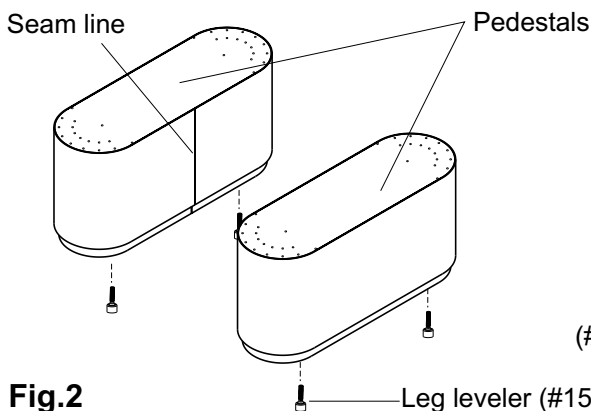
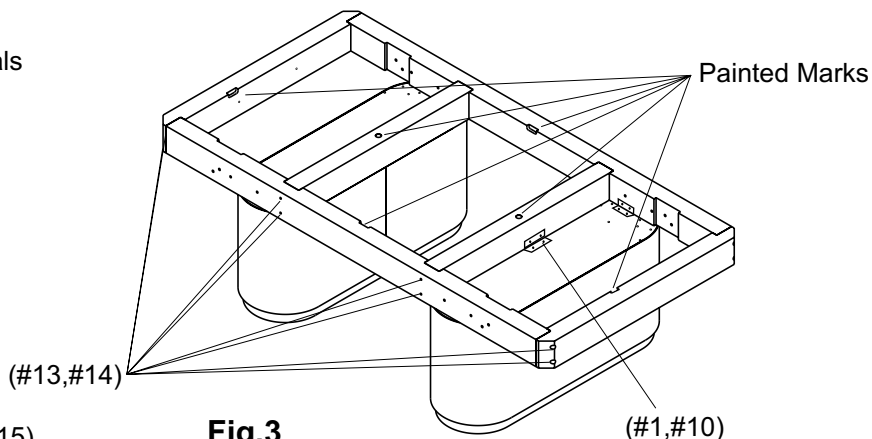

Fig.2
Fig.3
Unpack pedestal carton. Position and place pedestals in desired location. **Place seam line of laminate inward, See Fig.2.** Rotate main frame carefully until top side (with painted marks) is in an upright position. Put main frame on top of two pedestals (Each cross beam inner edges should be located on top of pedestals inner edges evenly.) Attach pedestals to outer edges of cross beams using six 90 degrees brackets (#1) and twenty-four screws (#10). **See Fig.3.**
3. Level pool table using Carpenter's Level. Use adjustable four leg levelers (#15) to level table: turn counterclockwise to raise lower end according to bubble level. See Fig.2 and Fig.3.